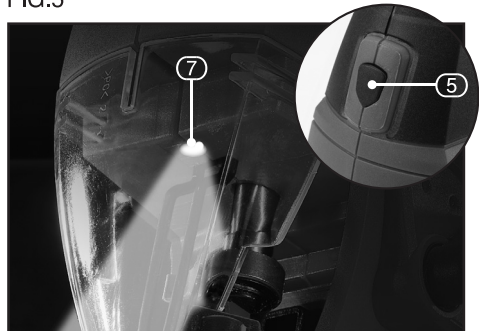

FIG.6
- Rotate the orbital/pendulum adjustment switch (10) to activate the required setting.
9.4 LED WORKLIGHT/LASER GUIDE – FIG.6